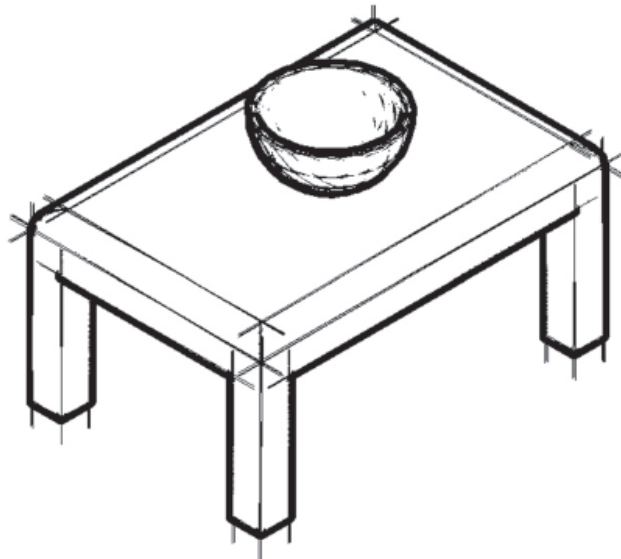

Fig. 47-2
9. Experiment on your own with all the **Edge Settings** buttons and sliders. Attempt to duplicate the hand-drawn look of Fig. 47-2.